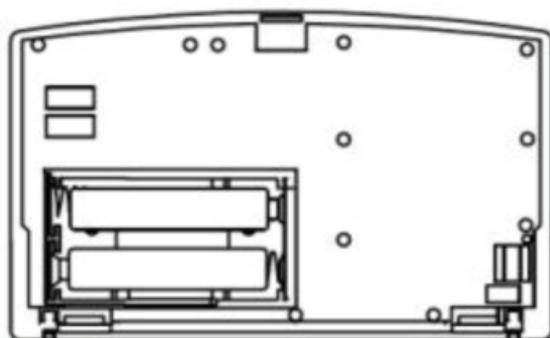

Fig.6
5. Insert the 2 x AA batteries provided (Fig.6) and replace the thermostat onto the back plate.